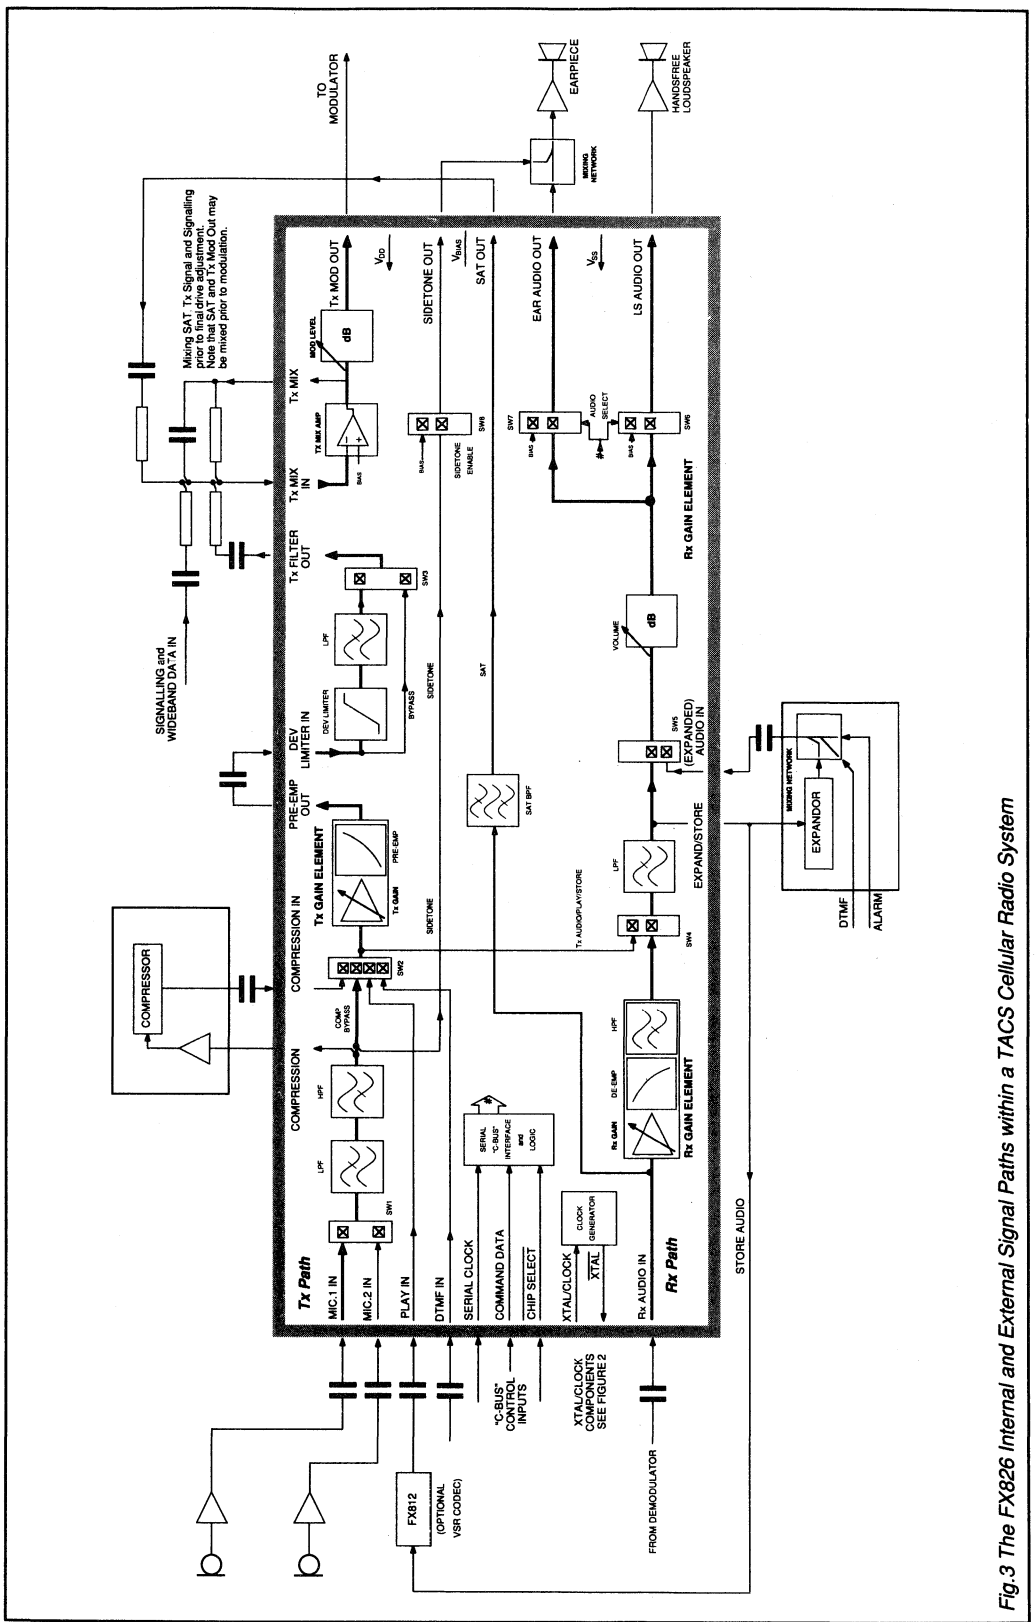

Fig.3 The FX826 Internal and External Signal Paths within a TACS Cellular Radio System
1. With reference to the Powersave Command and Figure 3, all functions with the exception of the Rx Gain Element may be powersaved. This will still allow signalling data through the FX816 to activate the system via the  $\mu$ Processor.